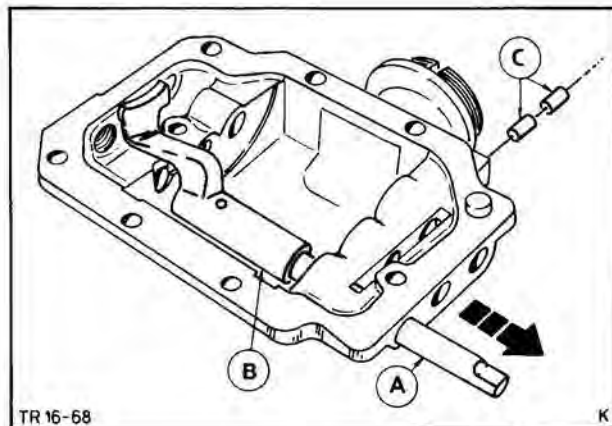

Fig. 119. Remove reverse gear selector rail and selector fork
6. Remove plungers and take out reverse gear selector rail and selector fork, Fig. 119.